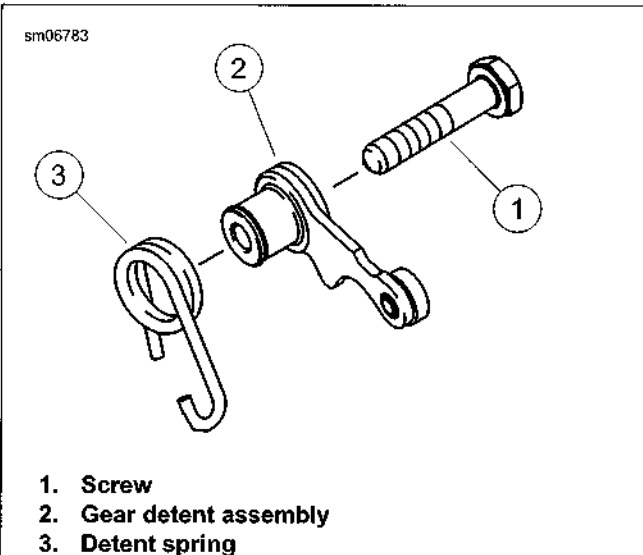

Figure 5-63. Gear Detent Assembly
1. See Figure 5-63. Assemble detent spring (3) onto gear detent assembly (2).
3. Secure with screw (1). Tighten to 90-110 in-lbs (10.2-12.4 Nm).